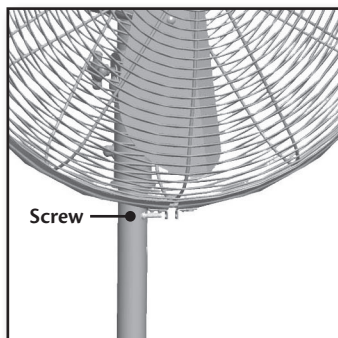

Figure 18
10. Tighten the screw to secure the grill ring over both the front and back grill. Figure 18.